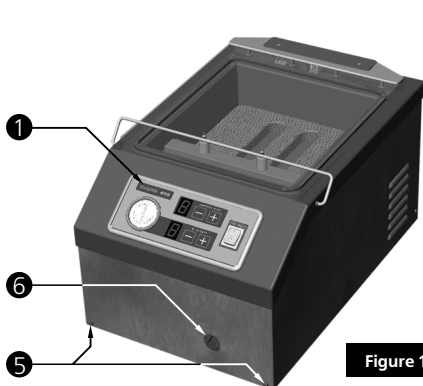
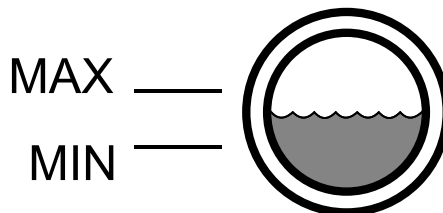

Figure 1
Figure 9
2. Check for the sufficient oil level through the sight port ❻ (see Fig. 1). If the level of oil is not sufficient top up as described in **Oil Filling and Changing** section;
The level of oils is monitored through the sight port ❹ (see Fig. 1). The appropriate level of oil is between marks **MIN** and **MAX** (see Fig. 9).
2. Remove two mounting screws ❶ (see Fig. 1);